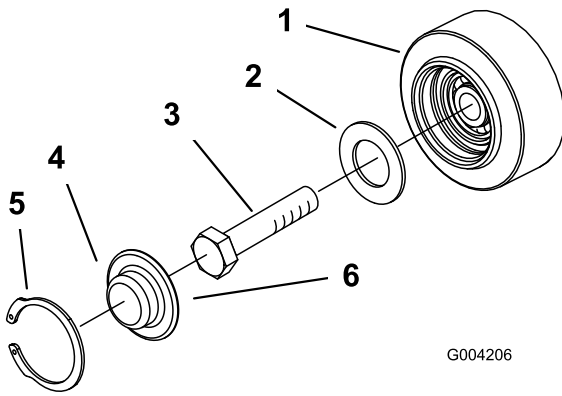

Figure 48
3. Remove the snap ring and cap from a road wheel (Figure 48).
4. Check the grease under the cap and around the gasket (Figure 48). If it is dirty, gritty, or depleted, clean out all of the grease, replace the gasket, and add new grease.
6. Place the greased road wheel cap over the bolt head (Figure 48).
7. Secure the road wheel cap with the snap ring (Figure 48).